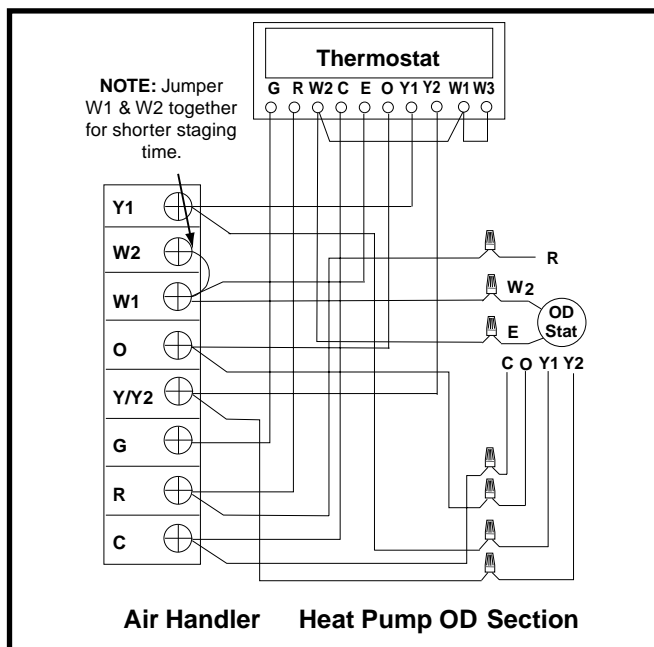

Figure 3. Typical 2 - Stage Heat Pump w/ Optional Outdoor Thermostat and Variable Speed Air Handler
- The low voltage wires must be properly connected to the units low voltage terminal block (Figure 3). Recommended wire gauge and wire lengths for typical thermostat connections are listed in Table 2.